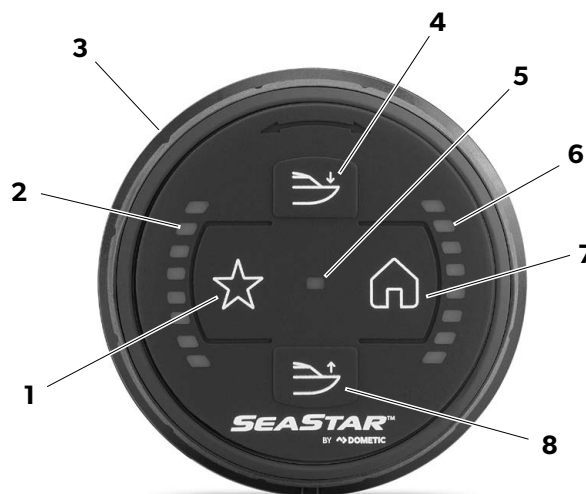

Figure 14-10.
- Press the Favorite button (see figure 14-10) for five seconds.
- ▶ Press the Favorite button (see figure 14-10).
- ✓ The system status indicator (see figure 14-10) will light up magenta or lime green. Magenta indicates that SOG is used to control deployment, while lime green indicates RPM is used.